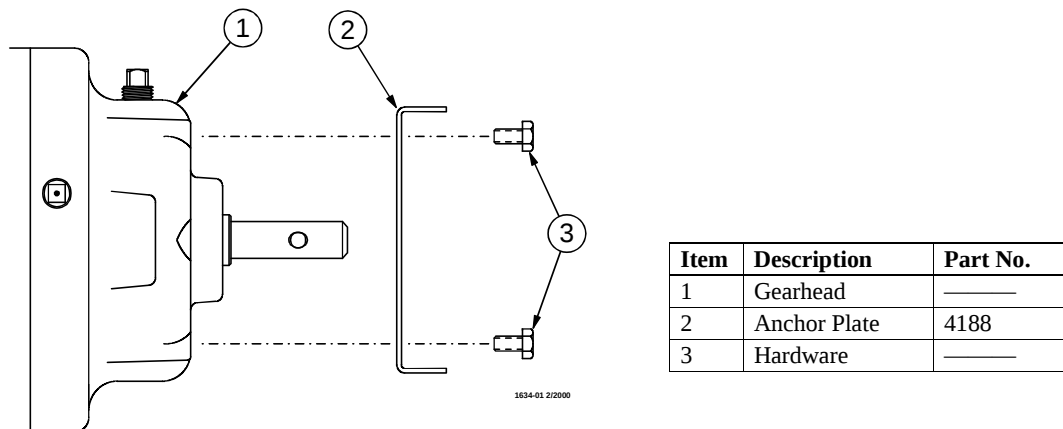

Figure 1. Gearhead to Anchor Plate Assembly
1. Assemble the Anchor Plate (item 2) to the Gearhead (item 1) using the included Hardware (item 3), as shown in Figure 1.